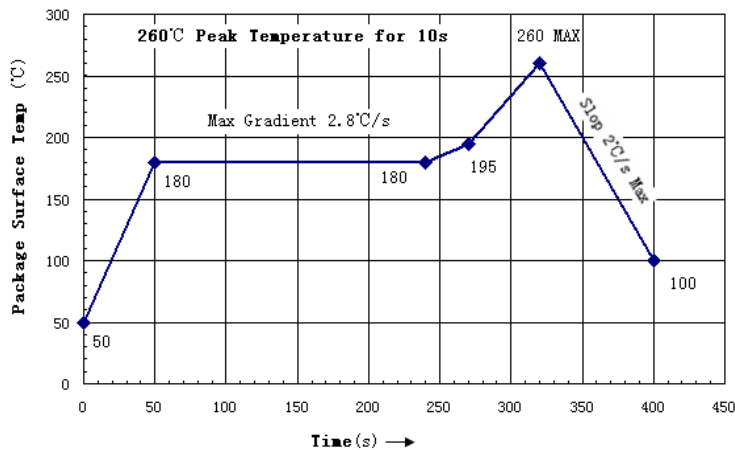

Figure 8
- Figure 8 is the reflow profile for Pb free process